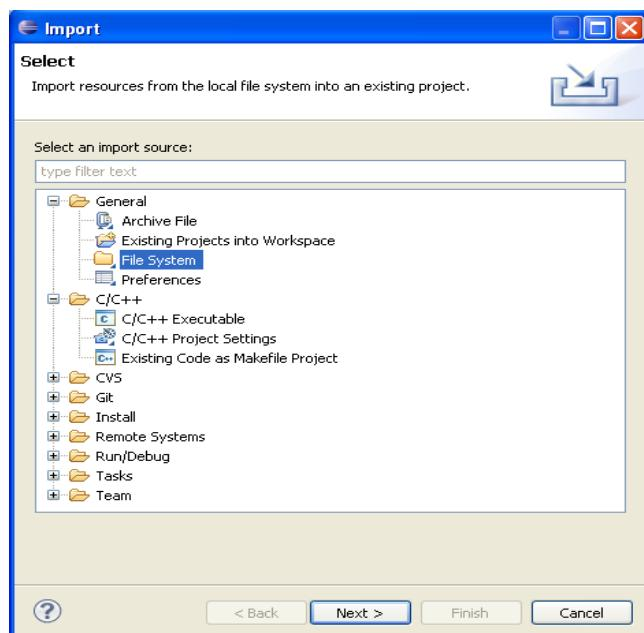

Figure 11.7 Import Window
- A window similar to that shown in Figure 11.7 will crop up.